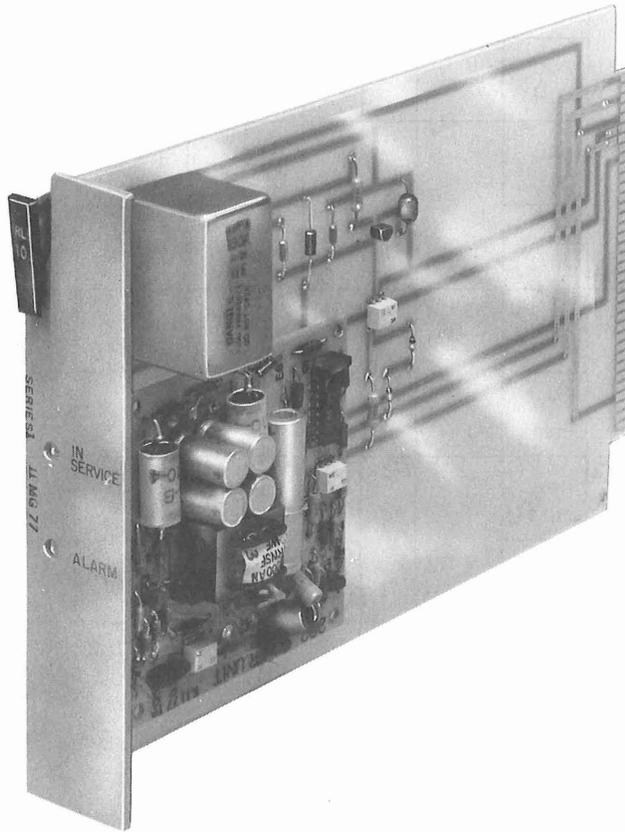

Fig. 15—RL10 CP—Power Supply
2.14 RL10 CP (Fig. 15): The RL10 CP has two indicators (IN SERVICE, ALARM) mounted on the faceplate. This circuit pack is 6-3/8 inches high, 1-3/8 inches wide, 10 inches deep, and weighs approximately 1-1/4 pounds.